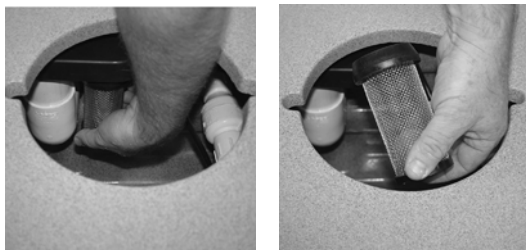

Fig. 9
2. Remove float shut off screen from recovery tank and clean (Figure 9).